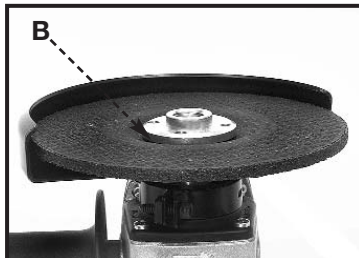

Fig. 6
5. Place the outer flange (B) Fig. 6 on the spindle with the flat side against the wheel and thread into place hand-tight.